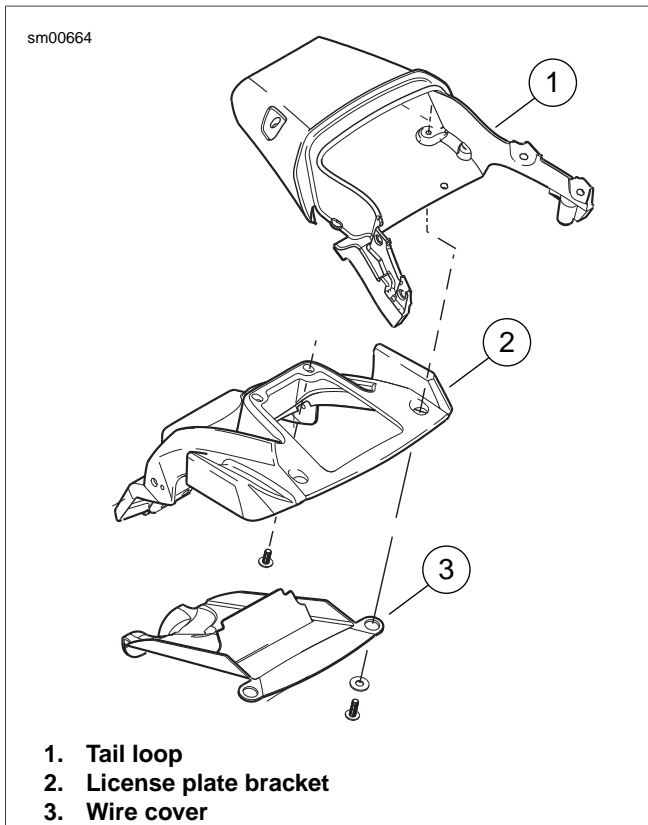

Figure 2-173. Wire Cover, Tail Loop and License Plate Bracket: Ulysses
3. See Figure 2-173. Remove two fasteners securing trunk pan to center tail loop (1).
5. Remove wire cover (3) on bottom side of license plate bracket (2) in order to access wires.
7. Remove rear trunk pan fasteners to center tail loop (10).